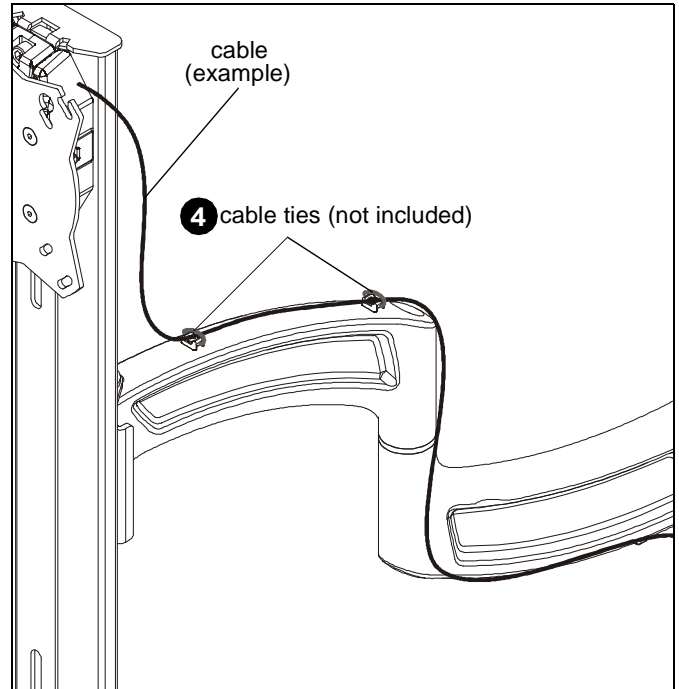

Figure 19
3. Route cables along mounting arms. (See Figure 19)
4. Use cable ties (not included) to secure cables to tie clips (E1). (See Figure 19)